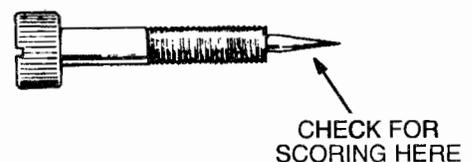

FIGURE 6-19. TYPICAL FUEL MIXTURE SCREW
4. Replace the fuel mixture screws if they are scored (Figure 6-19).